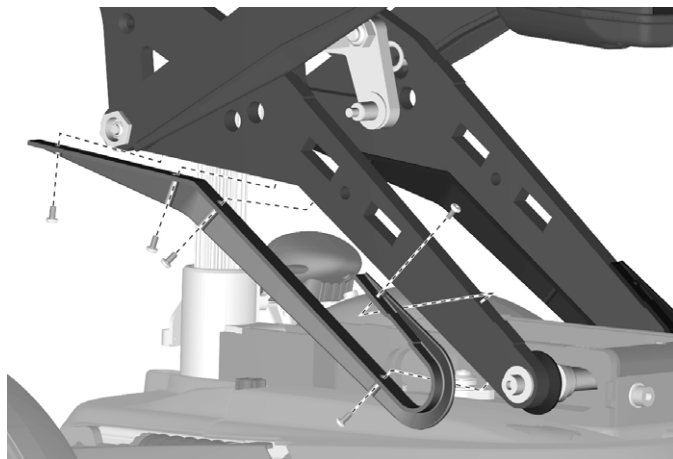

Figure 106. The pinch guard is assembled with five screws.
2. Fit the pinch guard to the lower elevator arm the five screws. See fig. 106.